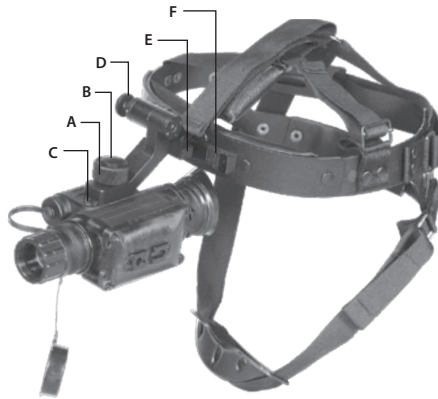

FIGURE 3-2. MOUNTING SPARK TO A GOGGLE KIT
Mount the Spark to the optional goggle kit as follows (refer to Figure 3-2):
2. Loosen the screw (A). While pushing down on the button (B), insert the Spark rail into the guide (C) of the goggle kit bracket. Tighten the screw (A).
4. To adjust the equipment for greater comfort, loosen the screw (A) and move the unit along the guide (C).
5. The goggle kit has a flip-up mechanism. Push the button (D) of the goggle kit bracket and lift the unit up until it reaches its top position.
6. Push the same button (D) to lower the unit into the correct viewing position.
Figure 3-2 shows the Spark in the correct position for the right eye. To readjust the unit for the other eye, remove the unit from the goggle kit bracket. Turn the unit around (180°) and mount it on the bracket through the rail on the second side. With the button (E) pushed, move the unit along the slide-rail (F) until the desired, most comfortable position is reached.